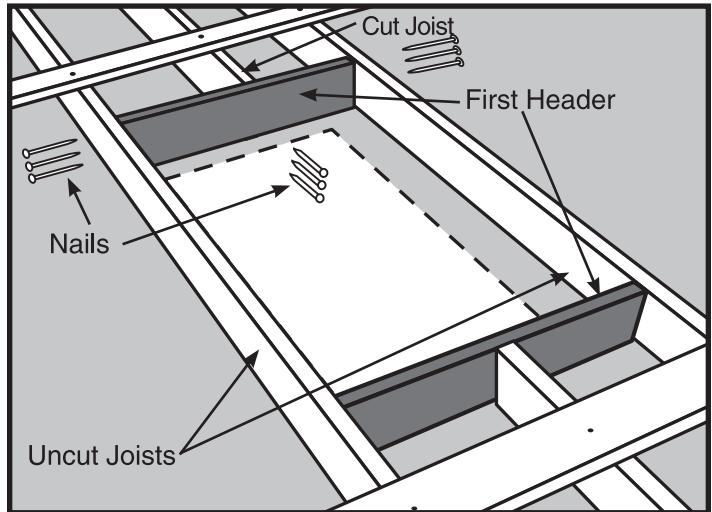

Figure 15
- STEP 3.** Place one of these headers against the end of the cut joist(s) (See Figure 15). It must fit snugly between the uncut joists. Hammer it into position if necessary; if it is more than  $1/16"$  too long, trim it. If it is more than  $1/16"$  too short, cut another piece.
- STEP 4.** Square the header to the uncut joist and nail the header to the end of the cut joist(s) with (3) 16d nails (See Figure 15).
- STEP 5.** Check header for squareness then drive (3) 16d nails through each joist into each end of the header (See Figure 15).